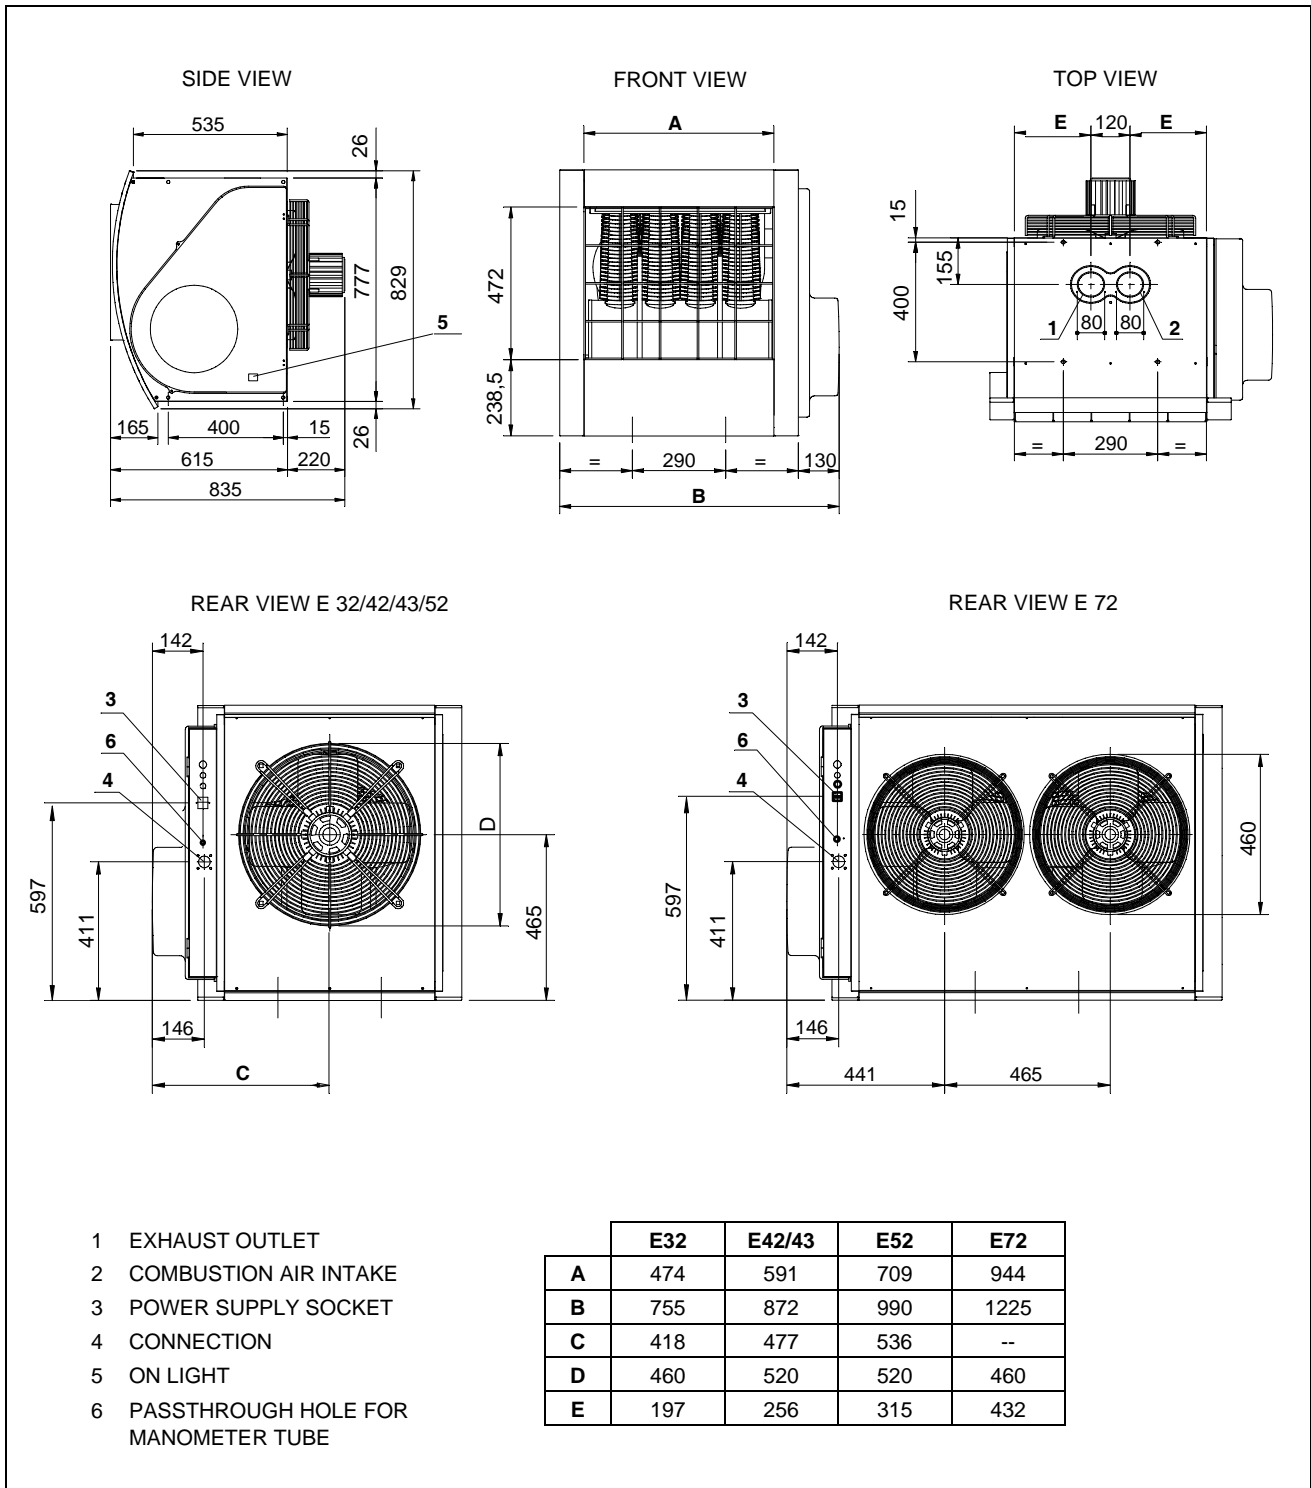

Figure 2 – DIMENSIONS
A green ON light located on the right-hand side of the appliance indicates that ignition of the burner has occurred (see item 5, Figure 2).